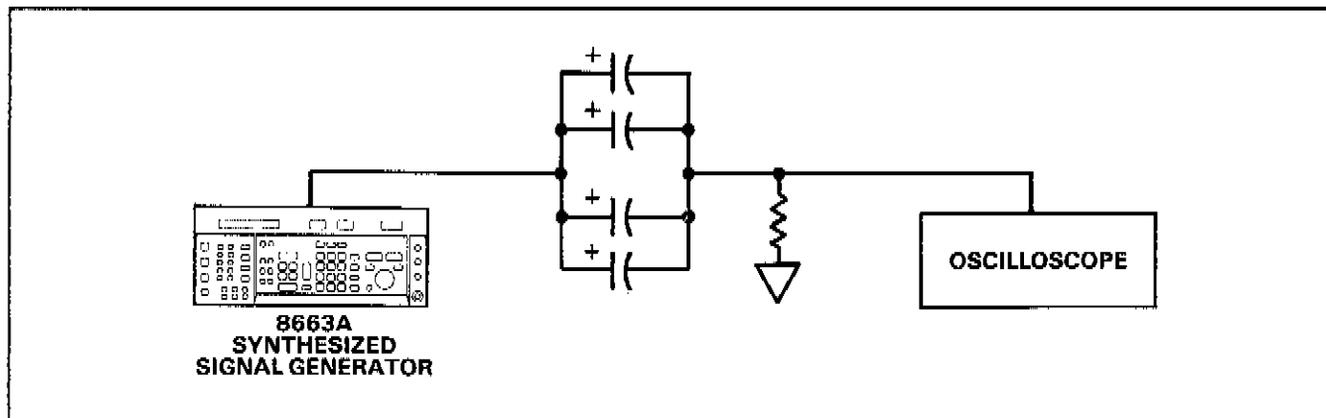

Figure 5-32. Pulse Modulation Drift Adjustments Setup.
7. Re-connect the RC network as shown in Figure 5-32, and set the oscilloscope to 5mV/division sensitivity. On A4A1, adjust LOCAL ALC DRIFT (R106) for the same result as in step 3.